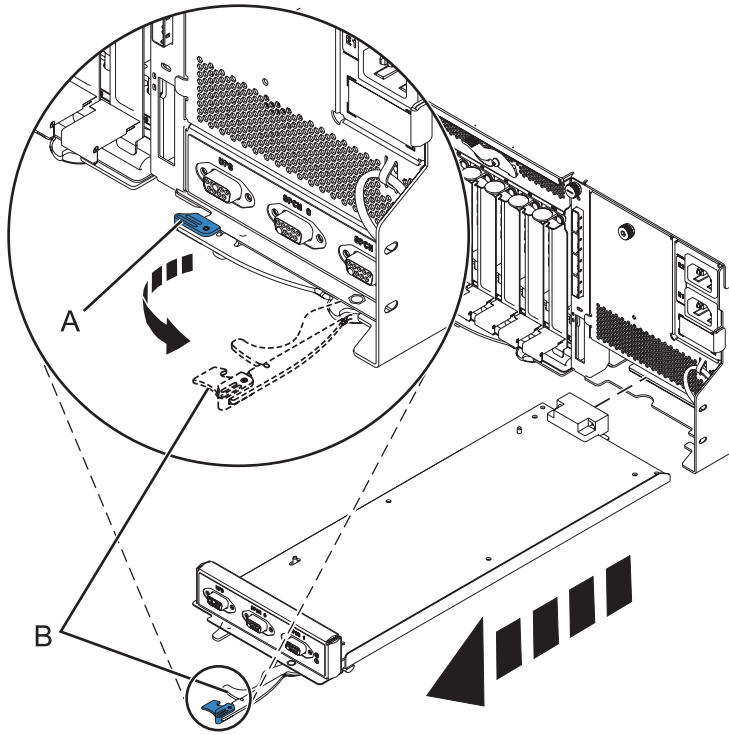

Figure 78. Remove the enclosure management controller
- b. Pinch the latch (A) to unlock the handle (B). See Figure 78 on page 97.